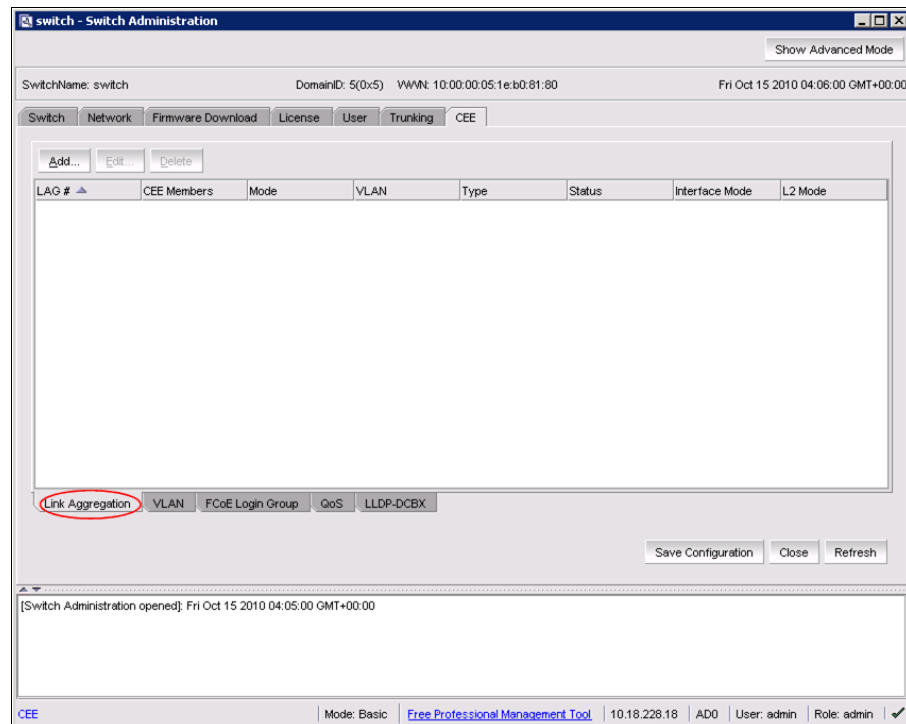

Figure 5-21 CEE tab → Link Aggregation tab
1. On the Switch Administration panel make the following tab selections: **CEE** → **Link Aggregation** (Figure 5-21).